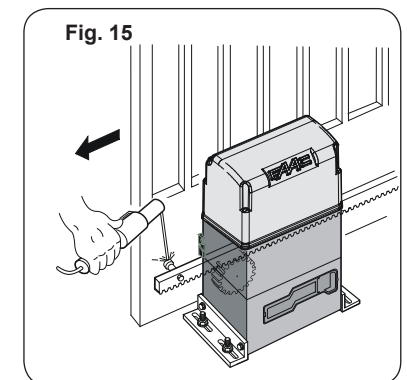

Fig. 15
3. Lay the first piece of rack level on the pinion and weld the threaded dowel nut to the gate as shown in Fig. 15.